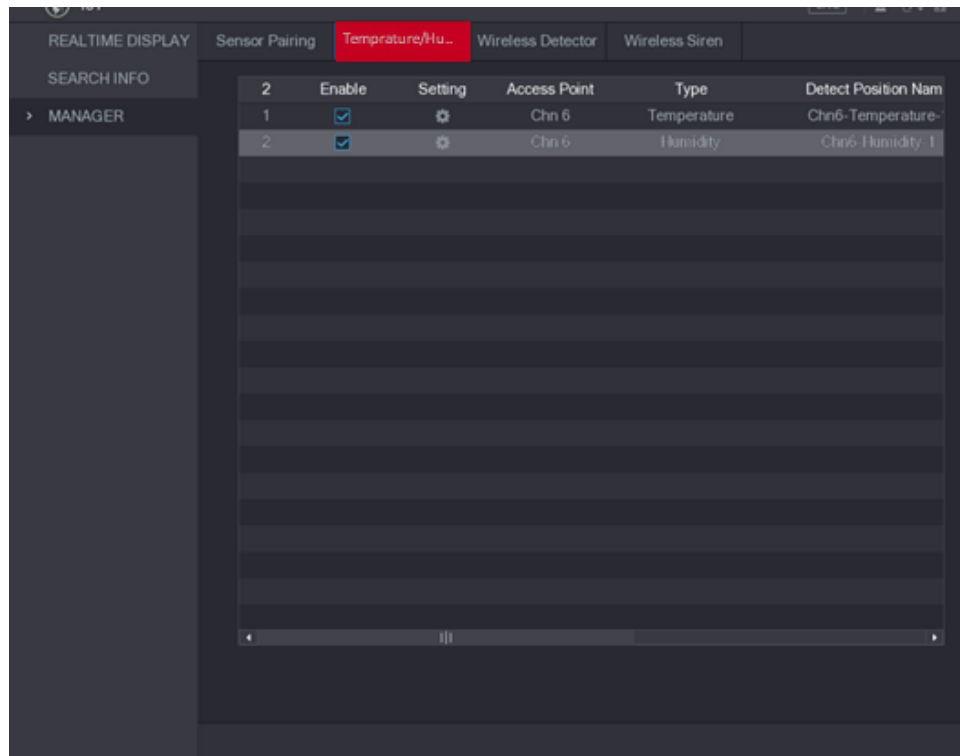

Figure 5-152
**Step 2** Select the **Enable** check boxes to enable IoT function. See Figure 5-152.